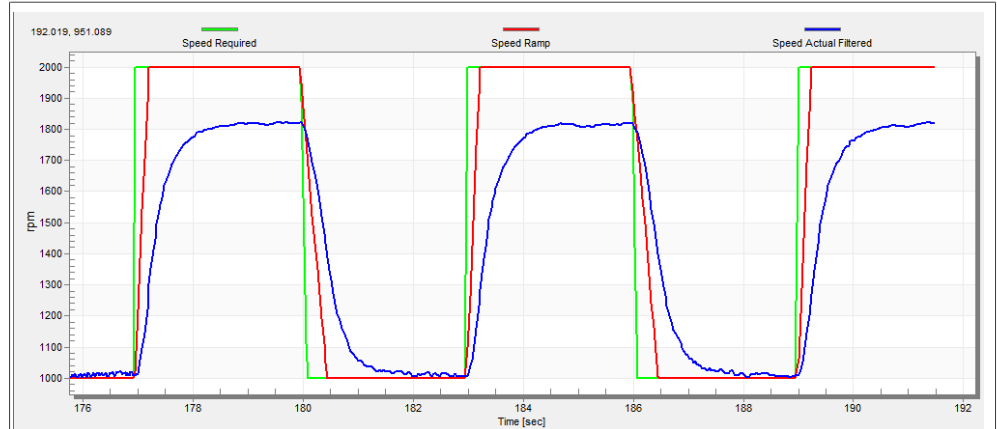

Figure 27. Speed controller response—SL_Ki value is low, Speed Ramp is not achieved
The motor speed control loop is a first-order function with a mechanical time constant that depends on the motor inertia and friction. If the mechanical constant is available, the PI controller constants can be tuned using the loop bandwidth and attenuation. Otherwise, the manual tuning of the P and I portions of the speed controllers is available to obtain the required speed response (see the example response in Figure 27). There are dozens of approaches to tune the PI controller constants. The following steps provide an approach to set and tune the speed PI controller for a PM synchronous motor:
- The “SL_Ki” value is low and the “Speed Actual Filtered” does not achieve the “Speed Ramp” (see Figure 27).